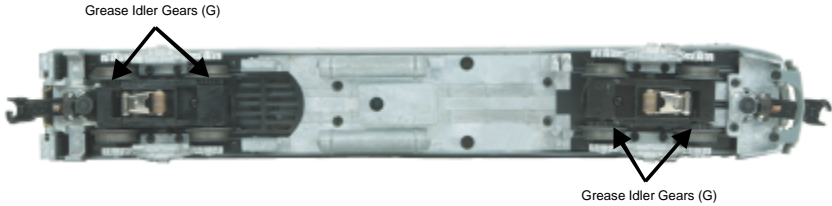

Figure 6 : Greasing the gears
1. To access the gear box, remove the cab from the chassis by unscrewing the chassis screws as seen in Figure 6 and lifting the cab from the chassis.
2. Once the cab is removed, remove the trucks by unscrewing the black Phillips motor mount screw located on the underside of the drive trucks (see Fig. 6).
Lubricate the outside truck block idler and drive gears with grease. Use the diagram shown in Figure 6 below as a guide and add grease to the points marked with a “G.”